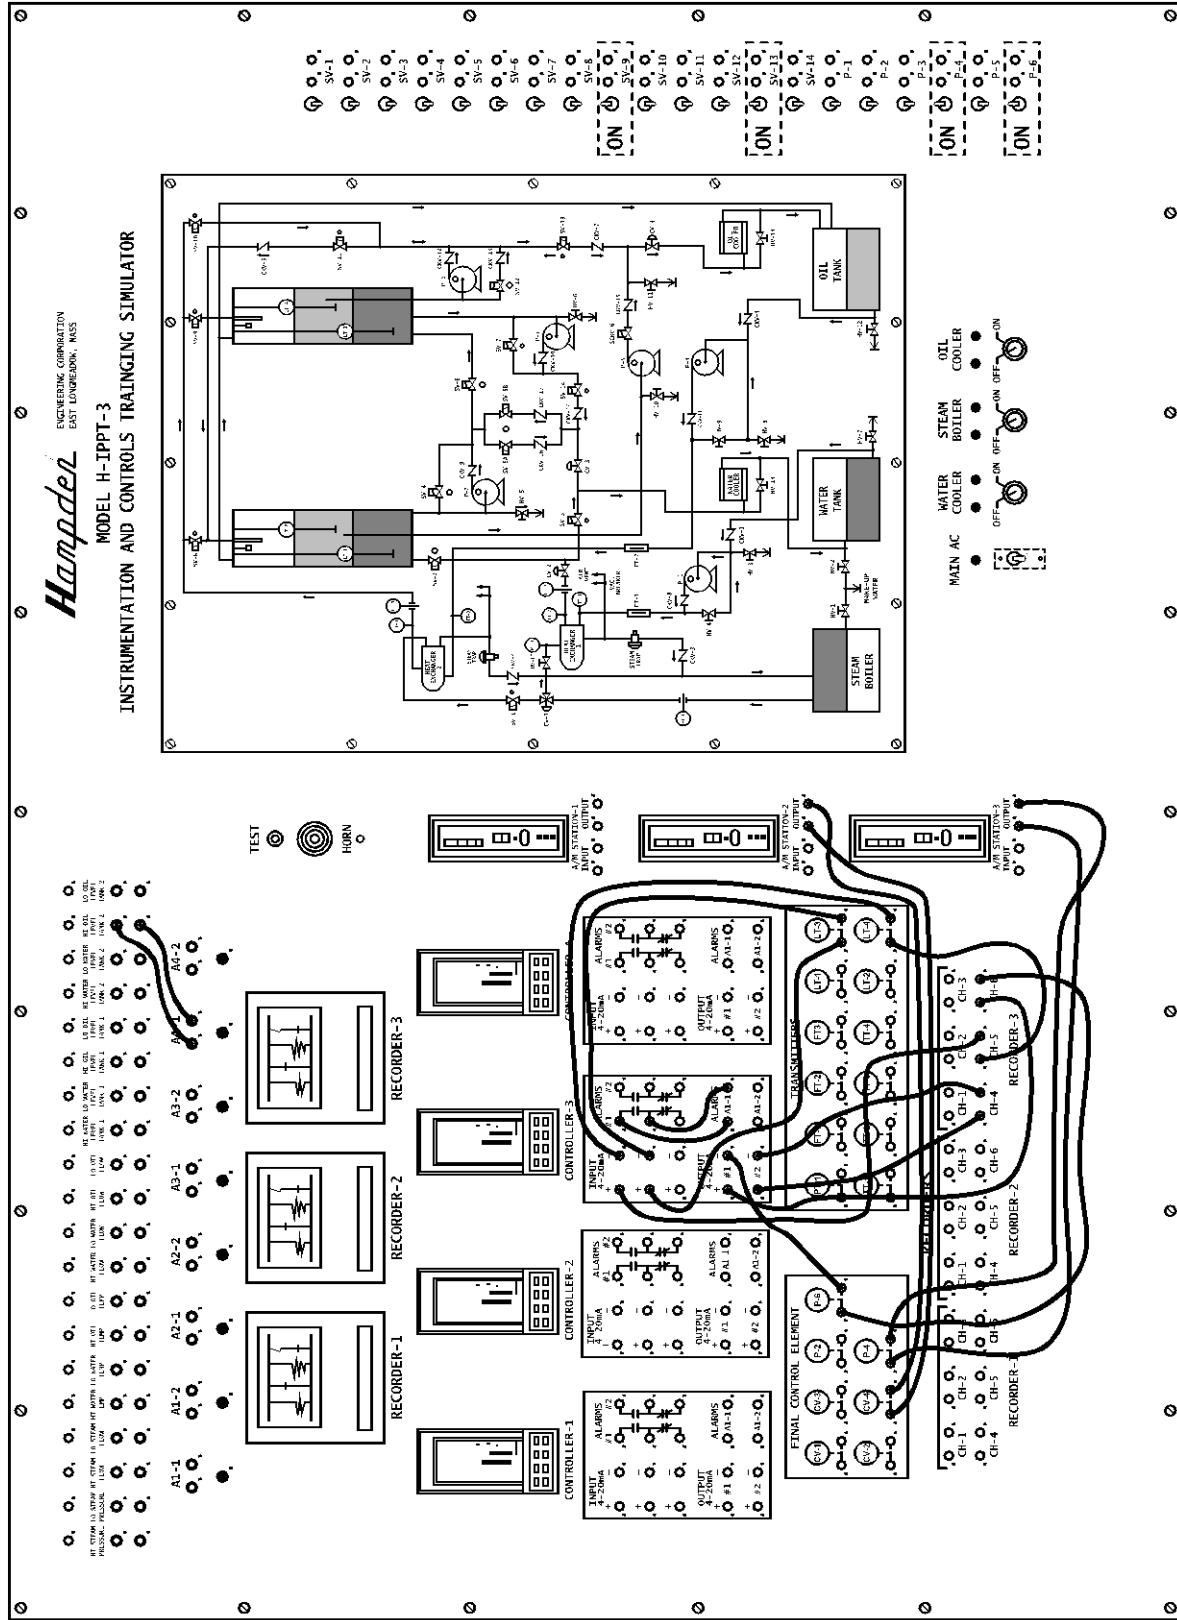

Figure 6: H-IPPT-3 Control Panel
5. Interconnect the process control equipment per Figure 6.